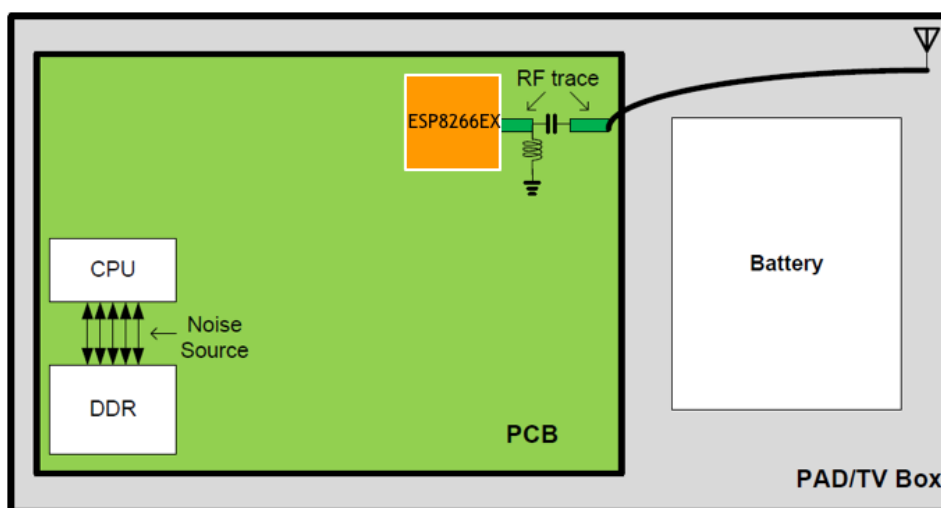

Figure 1-14. PCB/TV Box Layout
- As shown in Figure 1-14, ESP8266EX should be placed near the edge of the PCB and away from the CPU and DDR, the main high-frequency noise sources. The